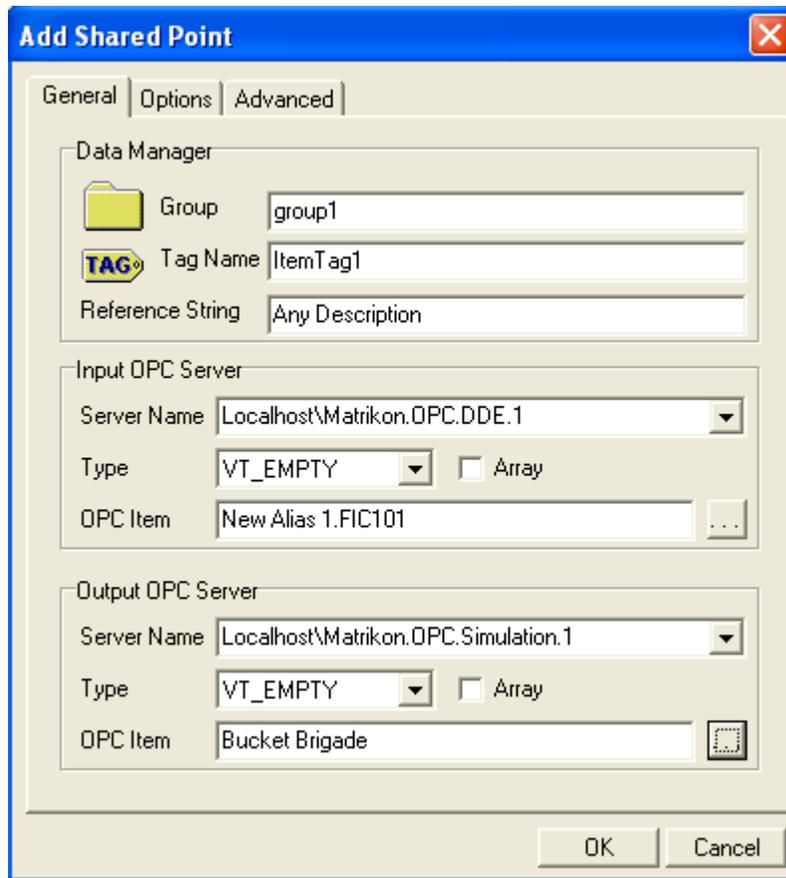

Figure 25 - Add Shared Point Window
7. The **Add Shared Point** window (Figure 25) appears.